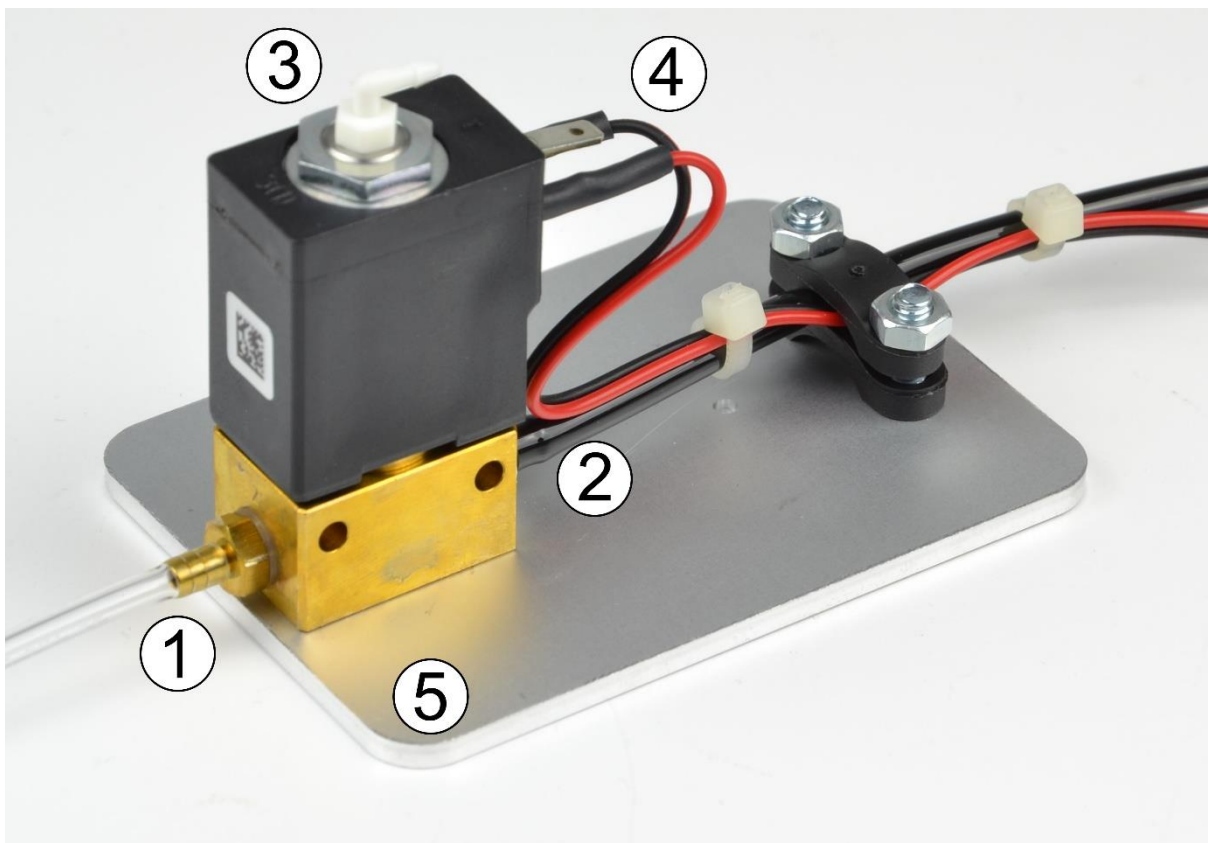

Figure 3: external valves on remote valve plate
The valves which are controlled by the PDES-02DX are located on the remote valve plate (see Figure 3). Tubing and cable of the external valves are connected at the rear panel of the PDES system (refer to chapter 2.3). Exhaust is usually not connected.
- o Connect your ejection pipettes to the *microJECT*s (#1, Figure 3).